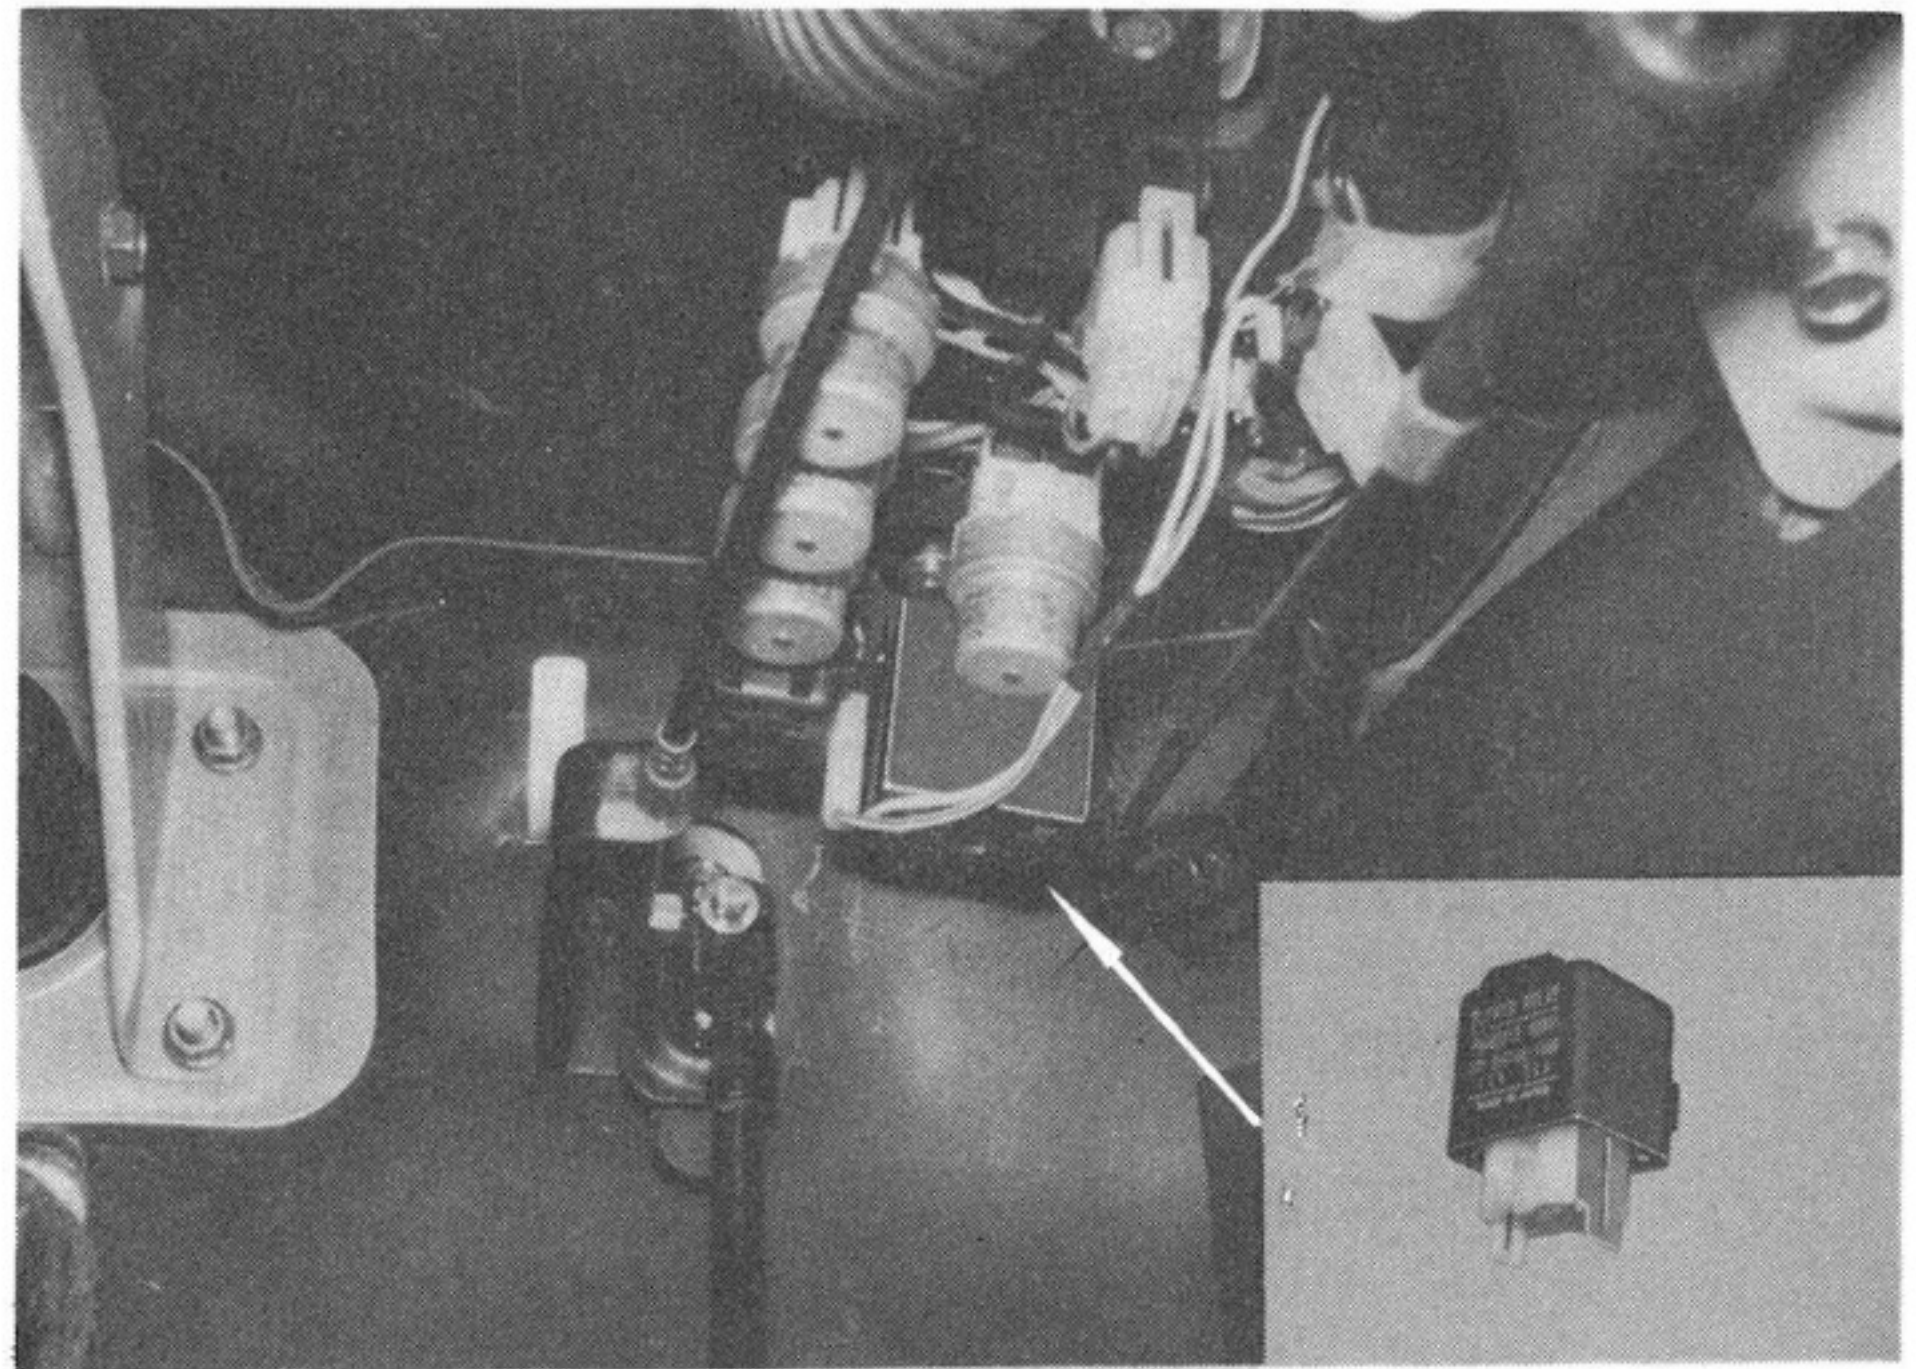

Fig. 1-16
- A) Install the A/C relay at the position in Fig. 1-16.